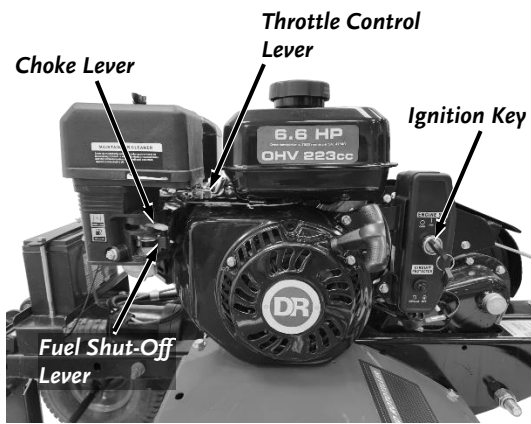

Figure 14
1. When starting a cold Engine, push the Choke Control Lever all to the left so it is in the CHOKE  position and the push the Throttle Control Lever to the left so it is in the RUN  position (Figure 14).